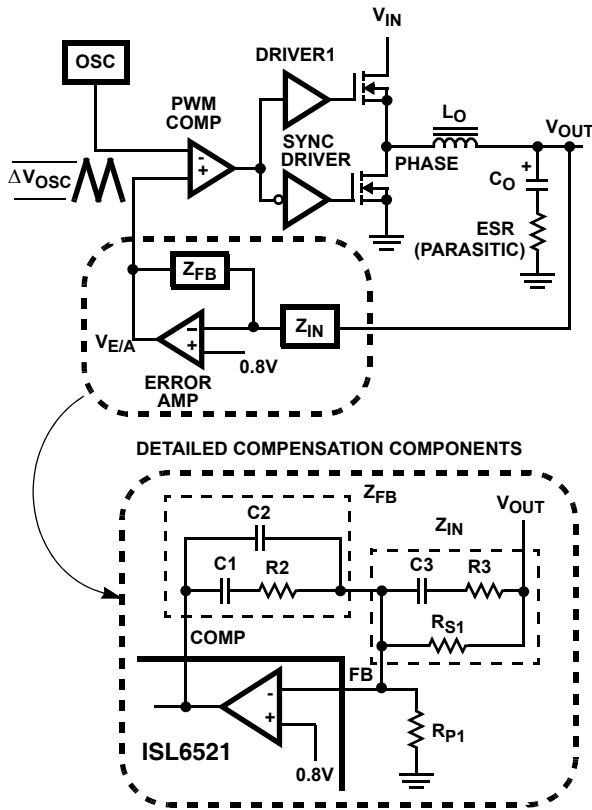
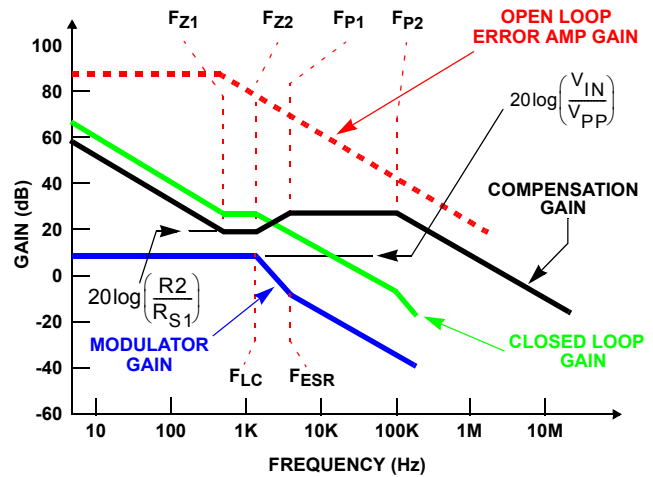

FIGURE 5. VOLTAGE-MODE BUCK CONVERTER COMPENSATION DESIGN
FIGURE 6. ASYMPTOTIC BODE PLOT OF CONVERTER GAIN
The compensation network consists of the error amplifier (internal to the ISL6521) and the impedance networks Z_{IN} and Z_{FB} . The goal of the compensation network is to provide a closed loop transfer function with high 0dB crossing frequency (f_{0dB}) and adequate phase margin. Phase margin is the difference between the closed loop phase at f_{0dB} and 180 degrees. The equations below relate the compensation network's poles, zeros and gain to the components (R_1 , R_2 , R_3 , C_1 , C_2 , and C_3) in Figure 5. Use these guidelines for locating the poles and zeros of the compensation network:
Figure 6 shows an asymptotic plot of the DC-DC converter's gain vs. frequency. The actual Modulator Gain has a high gain peak dependent on the quality factor (Q) of the output filter, which is not shown in Figure 5. Using the above guidelines should yield a Compensation Gain similar to the curve plotted. The open loop error amplifier gain bounds the compensation gain. Check the compensation gain at F_{P2} with the capabilities of the error amplifier. The Closed Loop Gain is constructed on the log-log graph of Figure 6 by adding the Modulator Gain (in dB) to the Compensation Gain (in dB). This is equivalent to multiplying the modulator transfer function to the compensation transfer function and plotting the gain.